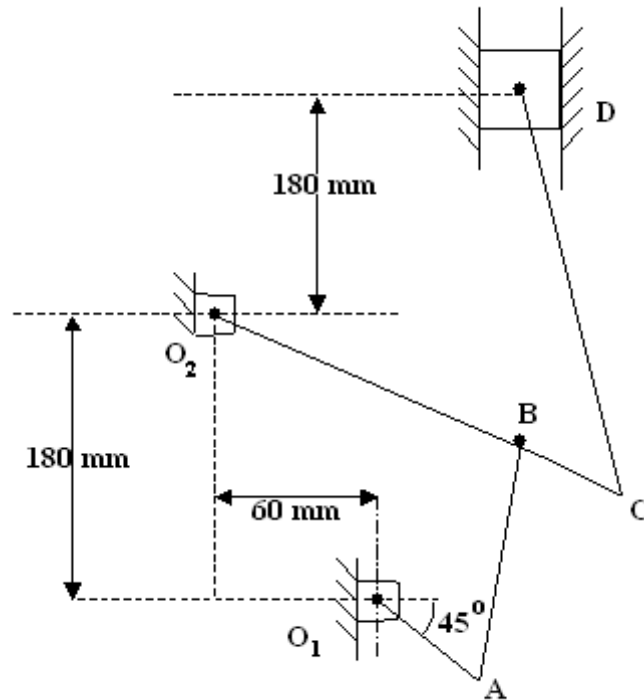

Figure 2:
4. A mechanism as shown in Figure 2 has the following dimensions: $O_1A = 60$ mm; $AB = 180$ mm; $O_2B = 100$ mm; $O_2C = 180$ mm and $CD = 270$ mm. The crank